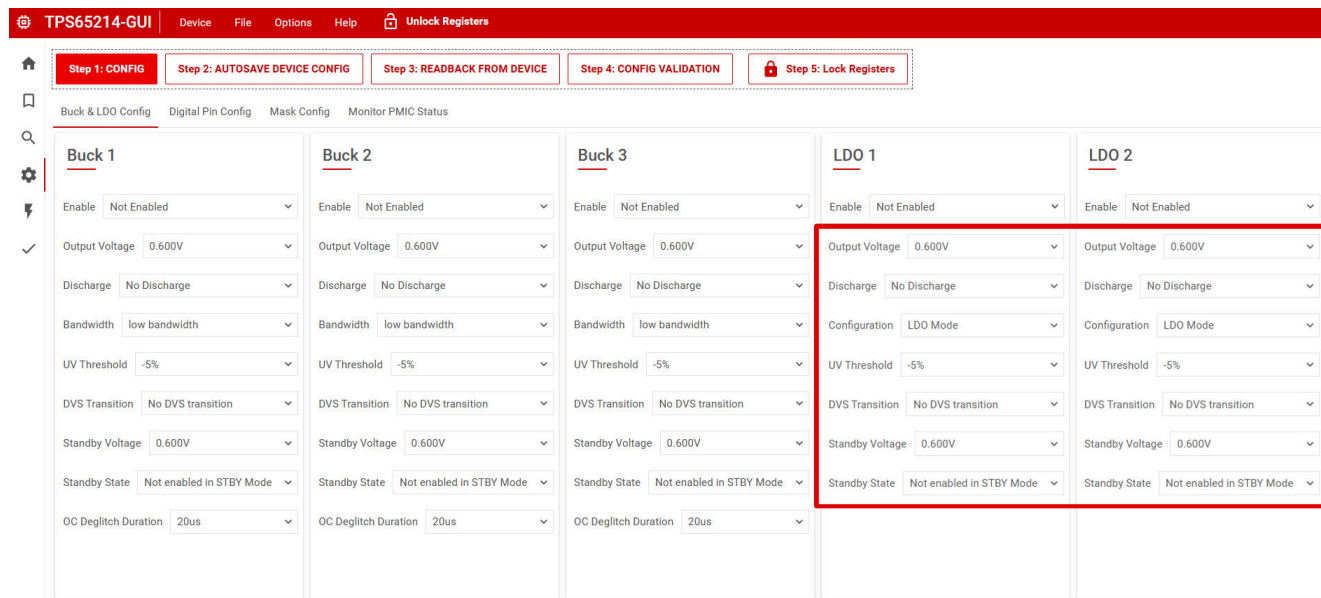

Figure 5-3. LDOs Settings Using the TPS65214-GUI
- Figure 5-3 shows the settings to be changed when using the configuration tab of the TPS65214-GUI.